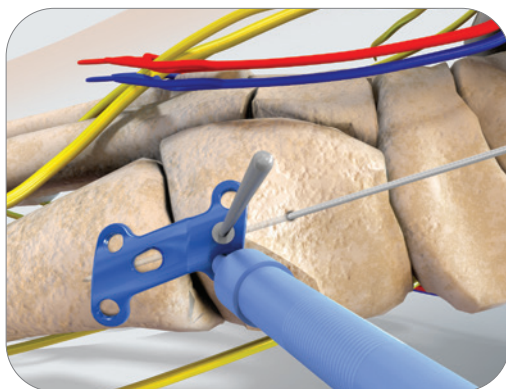

Figure 3-2
**3-2** Remove screw-on or snap-on drill guide and measure the depth of the hole using the Depth Gauge (**Figure 3-2**).